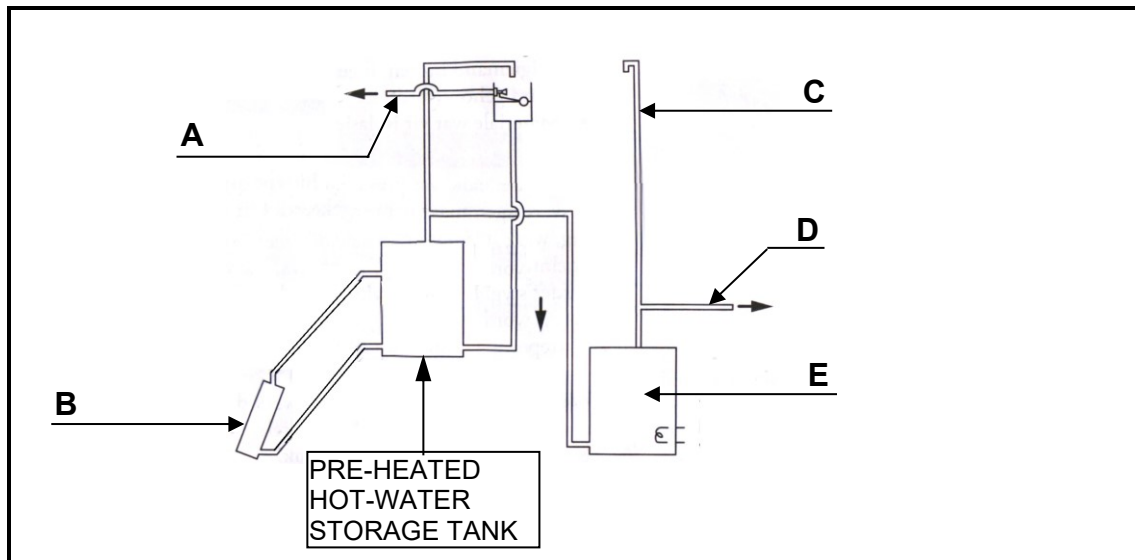

FIGURE 4.8
- 4.8 FIGURE 4.8 shows a solar water geyser with a pre-heating hot water storage tank. Answer the following questions with regard to the system.